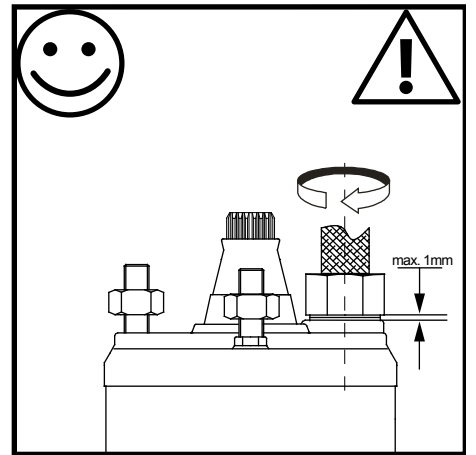

Fig.: 9
4. Insert plug into the socket until the socket thread becomes visible again (fig. 9 / 10).